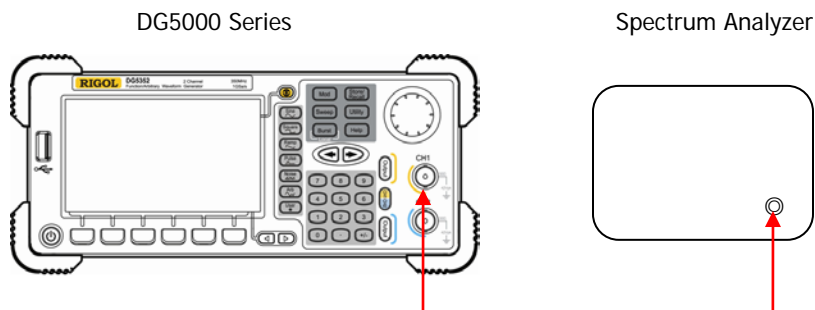

Figure 2-4 Connect DG5000 and Spectrum Analyzer
1. Connect CH1 of DG5000 with the RF input terminal of the spectrum analyzer using the dual-BNC cable and N-BNC connector as shown in **Figure 2-4**.